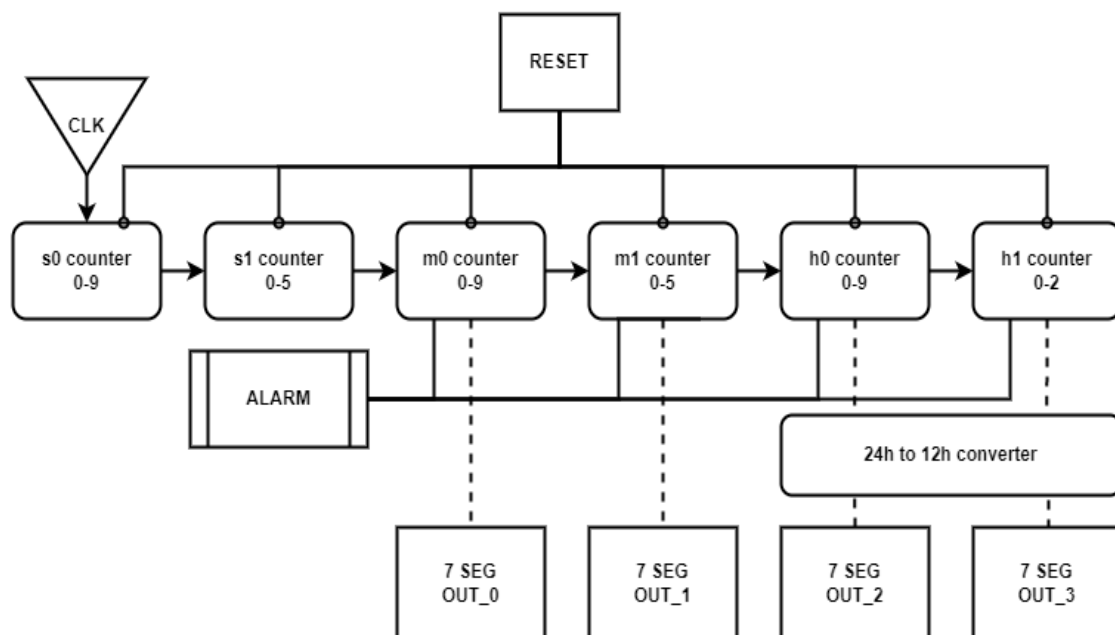

Figure.1: Block diagram of the digital alarm clock
- From the structural model of the clock in Figure.1, it is observed that we can embed the output of all the hour, minute, and second in 4-bit binary.